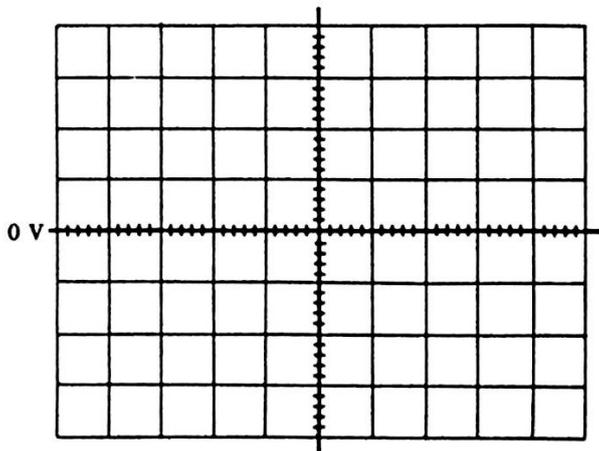

Figure 3.4a
- Record  $v_I(t)$  and  $v_O(t)$  waveforms on Fig. 3.4a.